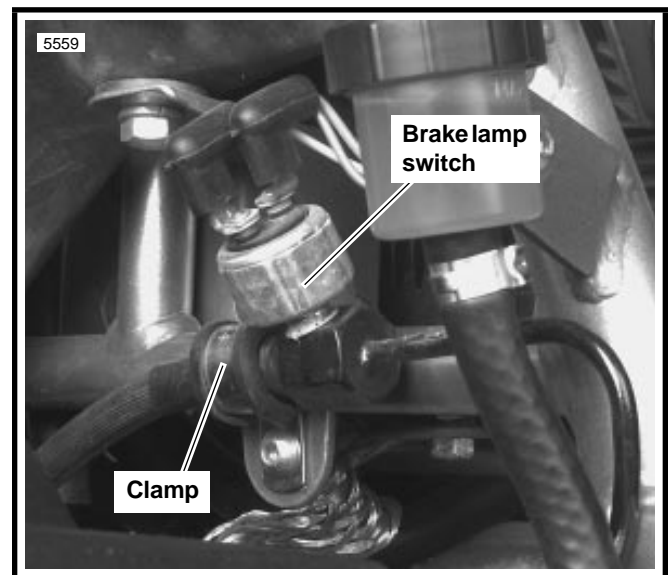

Figure 2-29. Brake Line and Switch
4. See Figure 2-29. Remove screw and clamp to detach brake line clamp from frame.
1. See Figure 2-29. Coat brake lamp switch threads with LOCTITE PIPE SEALANT WITH TEFLON. Thread brake lamp switch to tee nut of brake line. Tighten switch assembly to 7-8 ft-lbs (9.5-10.8 Nm). Install terminal sockets on switch spade connections.